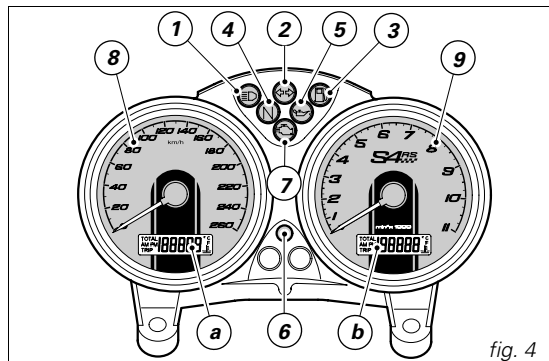

fig. 4
Instrument panel (fig. 4)
Keep the CODE CARD in a safe place. It is advisable to always carry the electronic code shown on the CODE CARD with you when using the motorcycle, in case it is necessary to override the engine lock by means of the release procedure that uses the throttle twistgrip. In case of faulty immobilizer system, the following procedure gives the chance to disable "engine lock" function - signalled by illumination of the yellow amber **EOBD** warning light (7, fig. 4).
The EOBD light (7, fig. 4) turns off after 8 seconds.
- 1) if the code is recognised, the light (6, fig. 4) on the instrument panel will flash briefly. This means that the immobilizer system has recognised the key code and enabled engine ignition. When you press the START (2, fig. 12) button, the engine starts up.
- 2) if light (6, fig. 4) or EOBD light (7, fig. 4) stay on, the code has not been recognised. In this case, it is advisable to turn the ignition key back to OFF and then to ON again. If the engine still does not start, try using another black key. If the engine still does not start, contact the DUCATI Service network.
- 3) If the light (6, fig. 4) is still flashing, it means that an immobilizer system fault was reset (e.g. using the throttle twistgrip override procedure). Turn the key to OFF and back to ON; the immobilizer light should return to normal state (see step 1).